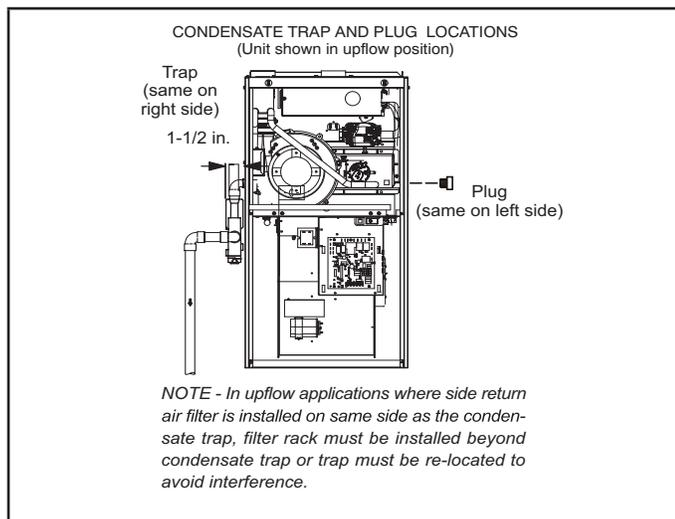

FIGURE 45
This unit is designed for either right- or left-side exit of condensate piping in up flow applications. In horizontal applications, the condensate trap must extend below the unit. An 8" service clearance is required for the condensate trap. Refer to FIGURE 45 and FIGURE 47 for condensate trap locations. FIGURE 53 shows trap assembly using 1/2" PVC or 3/4" PVC.
- 2 - Use a large flat head screw driver or a 1/2" drive socket extension and remove plug (figure 45) from the cold end header box at the appropriate location on the side of the unit. Install provided 3/4 NPT street elbow fitting into cold end header box. Use Teflon tape or appropriate pipe dope.